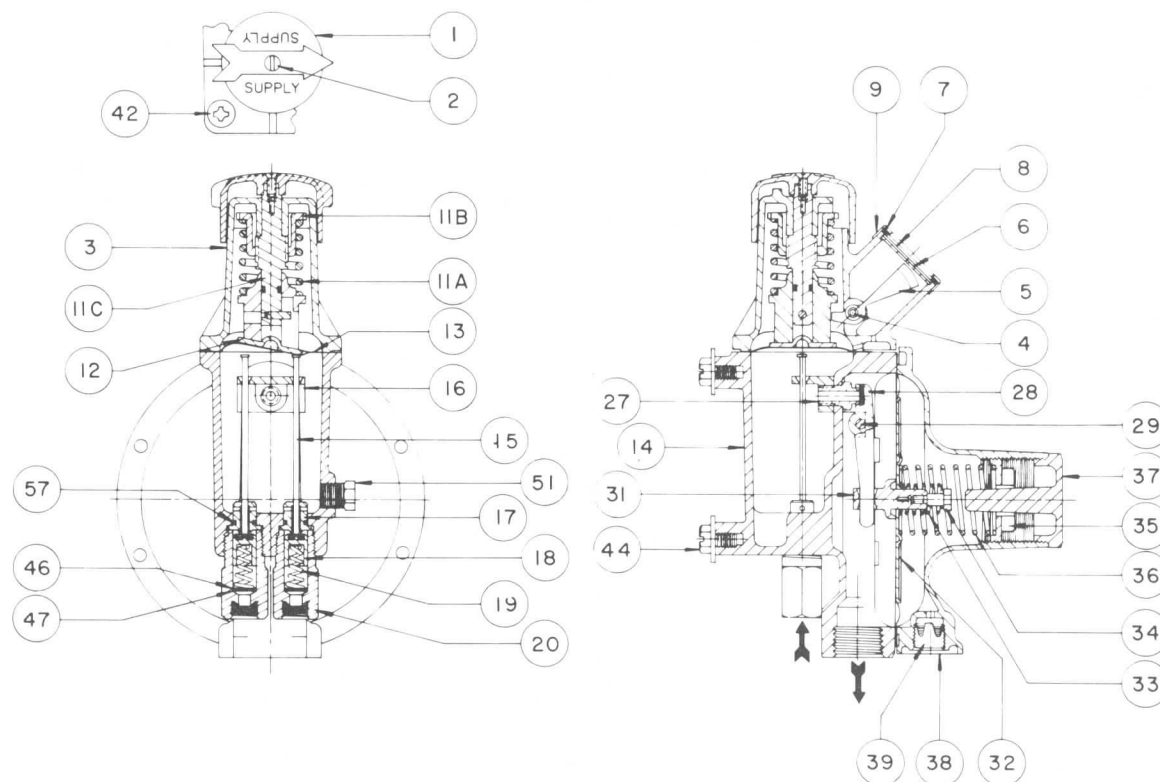

Fig. 5
Install the regulator in an upright position as shown in Figure 5. Do not remove the vent screen because it prevents the vent from being clogged with insects. On new installations it is mandatory to inspect and leak test the trailer tubing before connecting it to the appliances or the regulator. Avoid excessive strain on the regulator when connecting the regulator outlet to the brass fitting.
3. OPERATION (Fig. 5)
5. ADJUSTMENT (APPLIES TO MANUAL VALVE ALSO) (Fig. 5)
6. MAINTENANCE (Fig. 5)